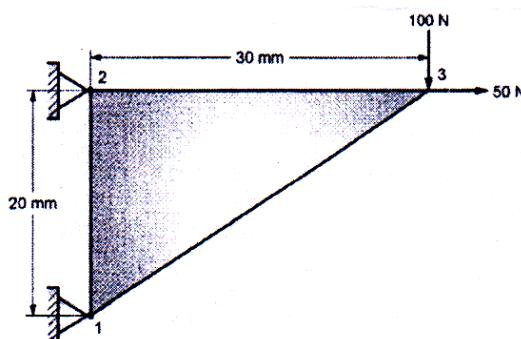

Fig.6
- Q6)** A triangular plate subjected to various loads as shown in fig.6. The modulus of elasticity is 70×10^3 N/mm 2 , the poisson's ratio is 0.3 and thickness of plate is 10 mm. Model the plate with CST element and determine Element stiffness matrix and nodal displacements. [17]